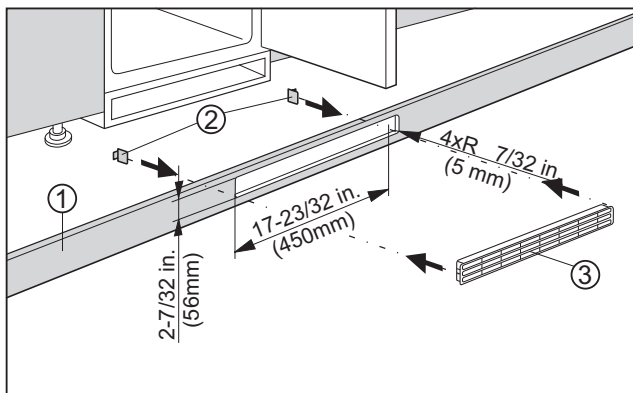

Figure 6
2. Ventilation through the cabinet base at the bottom can be achieved by installing the provided ventilation grille (**Fig. 6, 3**) or via a ventilation opening of at least 31 in.² (200 cm²).
When using the provided ventilation grille (**Fig. 6, 3**), please proceed as follows:
- In the cabinet base, cut out a ventilation opening that is 17-23/32 in. (450 mm) in width and 2-7/32 in. (56 mm) in height (**Figure 6**).
- Insert ventilation (**Fig. 6, 3**) grille into the cabinet base cut-out (**Fig. 6, 1**).
- From the back side, slide the snap-fits (**Fig. 6, 2**) into the grille until the hooks make contact with the cabinet base.